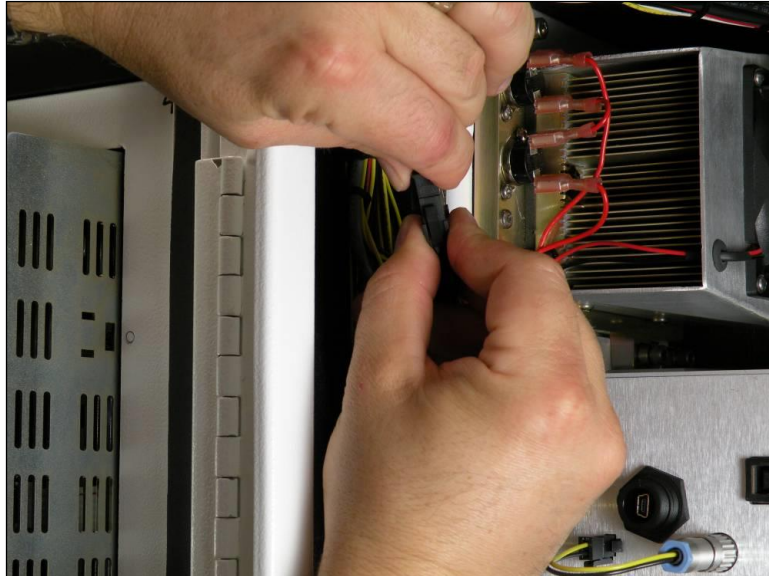

Figure 103. Disconnect electrical connection
3. Disconnect the electrical connection at the front of the analyzer (Figure 103).